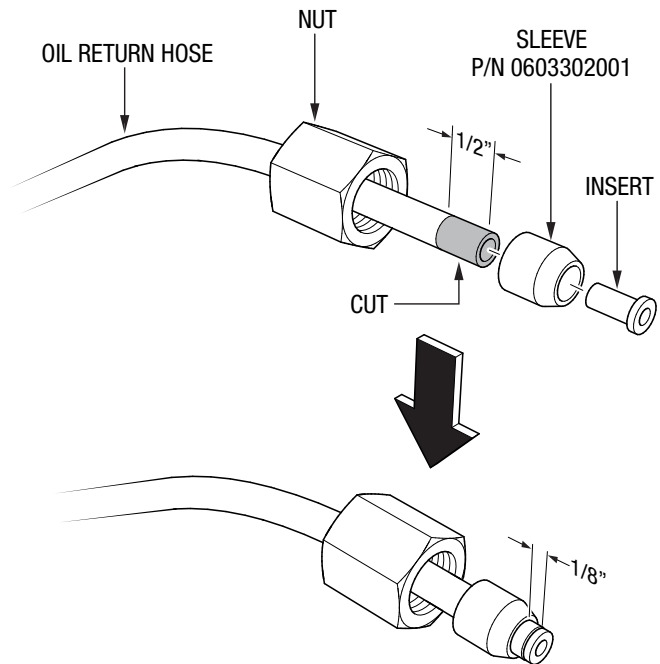

Figure 22. Oil Return Hose Preparation
4. Pull back the oil return hose nut as shown in Figure 22. Cut off and discard approximately 1/2" from the end of the hose, including the existing sleeve.
5. Place the new sleeve (P/N 0603302001) onto the end of the oil return hose, with the tapered end of the sleeve pointing out towards the cut end of the hose. See Figure 22.
6. Slide the insert into the cut end of the oil return hose (Figure 22). Adjust the sleeve (P/N 0603302001) so that it is approximately 1/8" from the end of the hose.